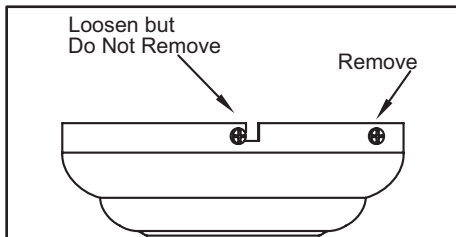

Figure 5
1. Remove the mounting plate from the canopy by loosening the four screws on the top of the canopy. Remove the two non-slotted screws and loosen the slotted screws. This will enable you to remove the mounting plate (Figure 5).